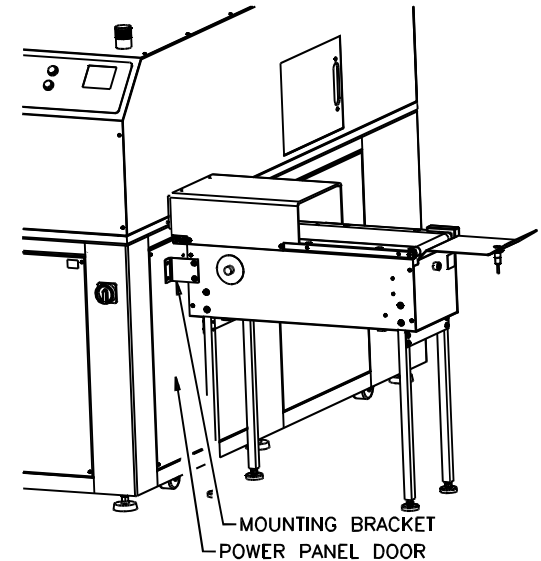

Figure 2-12. Exit Conveyor Placement
3. Move the exit conveyor to the right-hand side of the trimmer such that the slots in the conveyor mounting brackets line up with the holes in the power panel door as shown in Figure 2-12.